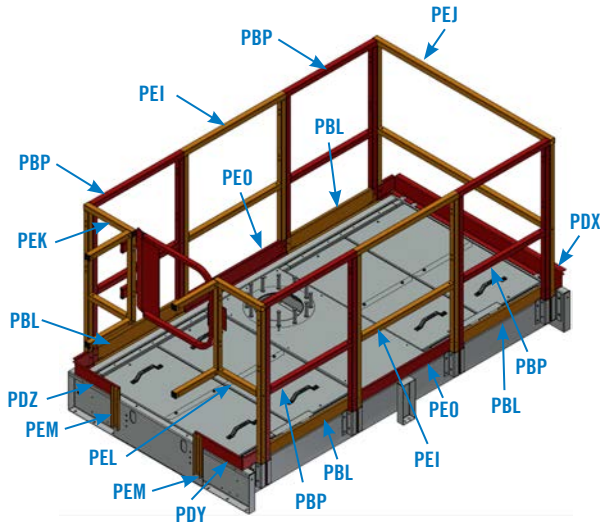

Figure 29a. S15E/X15E-1285-x
1. The welded handrail assemblies drop into pre-installed sockets in a specific configuration depending on the size of the unit. See **Figures 29a - 29c** below for the configuration type depending on the model number.